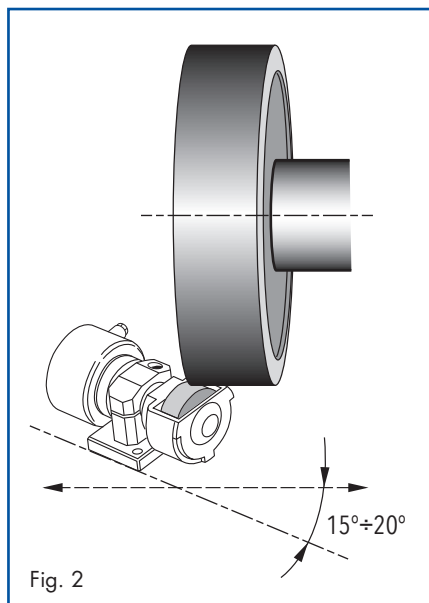

Fig. 2
2. Tilt it  $15^{\circ}$ - $20^{\circ}$  (see Fig. 2) from the oscillation axis so that the dressing wheel axis works light inclined with Diamond or CBN wheel axis